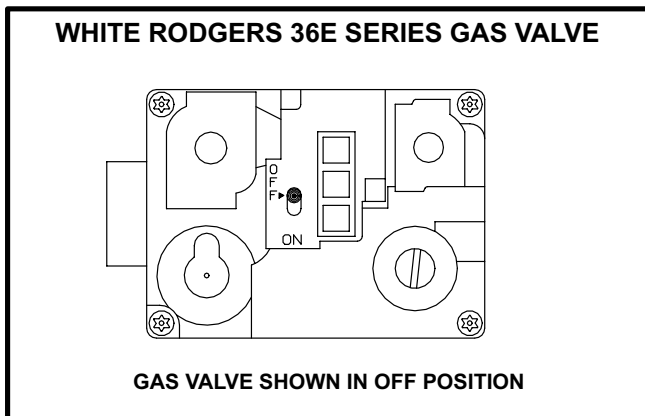

FIGURE 2
Gas Valve Operation (See figures 2 and 3)
- 6 - *White Rodgers 36E Gas Valve* - Switch gas valve lever to **OFF**. do not force. See figure 2.